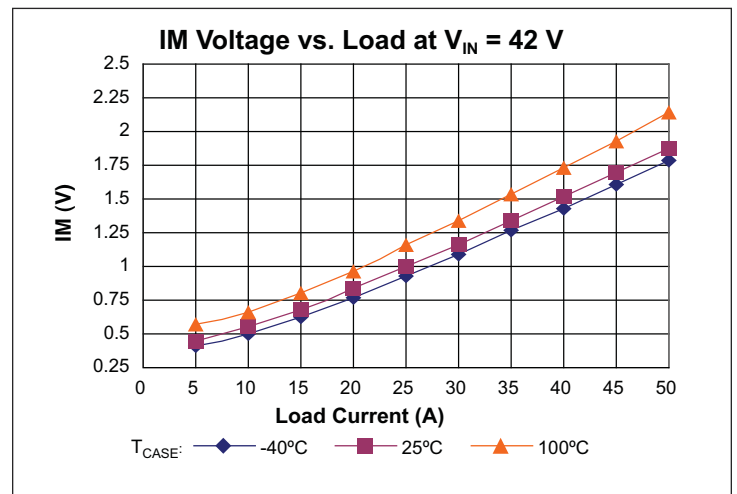

Figure 8 — IM voltage vs. load
Current Monitor (IM) pin provides a voltage proportional to the output current of the VTM module. The nominal voltage will vary between 0.39 V and 1.86 V over the output current range of the VTM module (See Figures 8–10). The accuracy of the IM pin will be within 25% under all line and temperature conditions between 50% and 100% load.